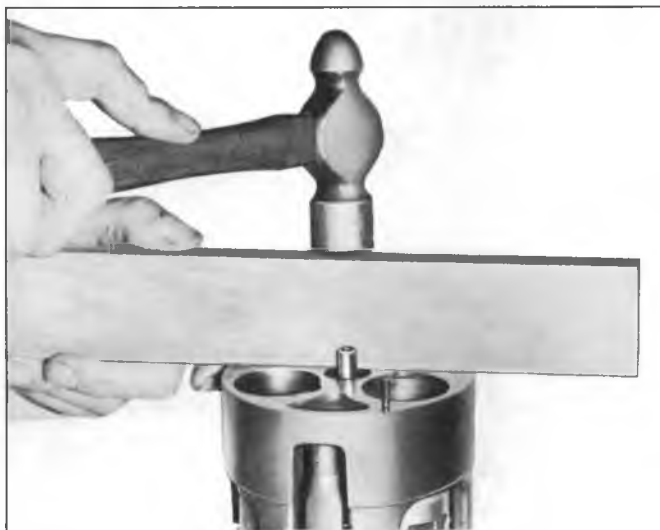

Fig. 22-Assembling Cylinder Halves
10. Align the rear head casting with bores, suction passage, discharge crossover holes, and dowel pins. Tap into place, using a plastic block and mallet (fig. 22).